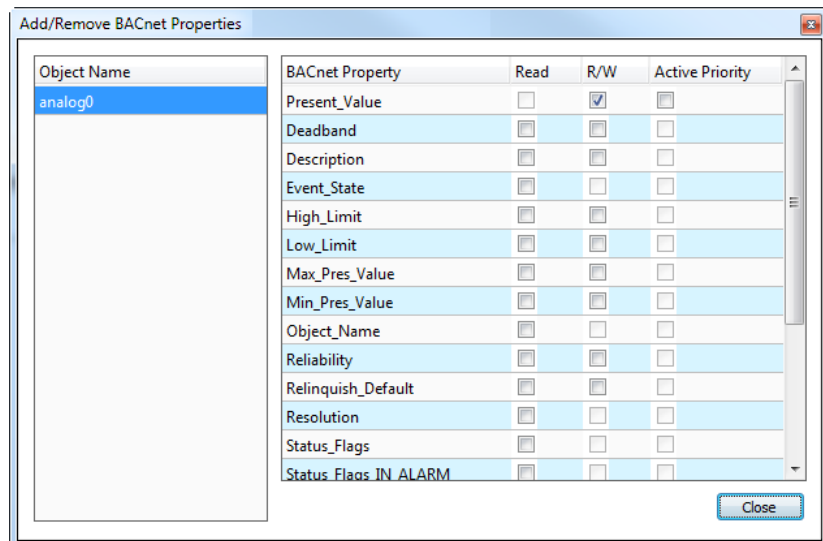

Figure 200: Dialog for adding/removing BACnet properties.
2. Right-click on the data point and select **Add/Remove BACnet properties ...** from the context menu. The dialog appears as shown in Figure 200.